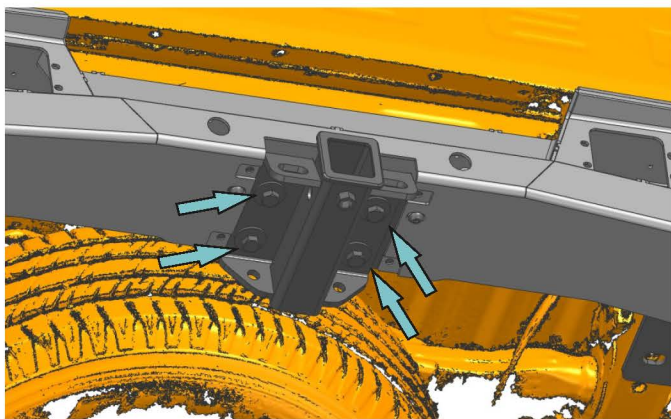

Fig. 37
34. Install tow bar square (item 9) and tow bar socket bracket (item 8) using bolts M12x1.25x40 (item D) and washers 12 (item H) on bracket (item 2) as shown in fig. 37.